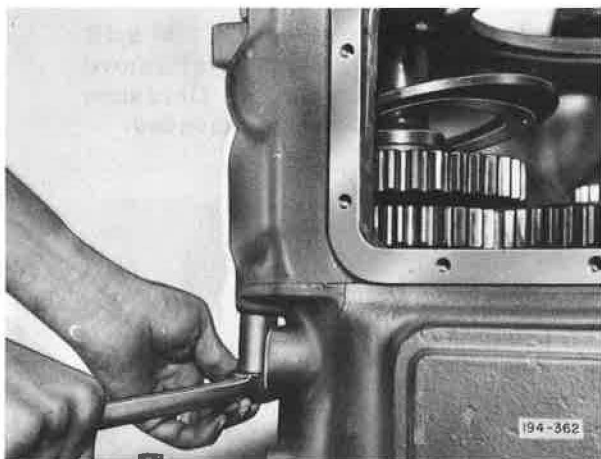

Figure 5-177. Tightening Compound Case to Bell Housing Capscrews
22. Turn compound case assembly over and attach case to bell housing. Install capscrews and tighten to recommended torque. See Figure 5-177.